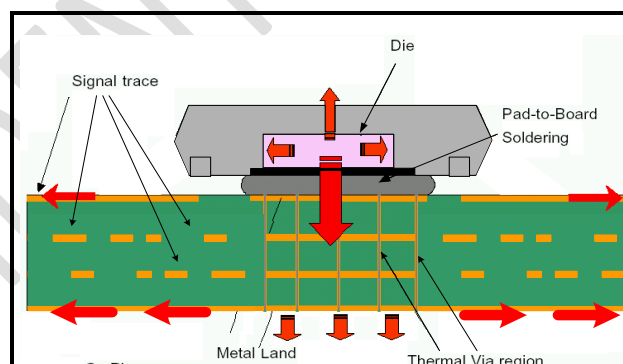

Figure 18: Heat Dissipation in PC
- ◆ Analog ground plane (AGND) is utilized to transfer the heat generated by the PD69208A (see Figure 18) Thermal Pad Definition and Design.